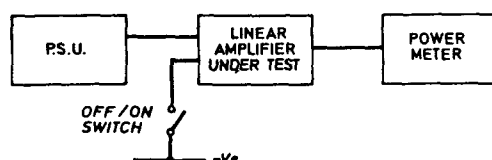

FIG. 4
NOTE. The following tests require the arrangement shown in Fig. 4 which includes a single pole single throw switch for Off/On switching.
- Connect as in Fig. 4, OFF/ON switch set to OFF.